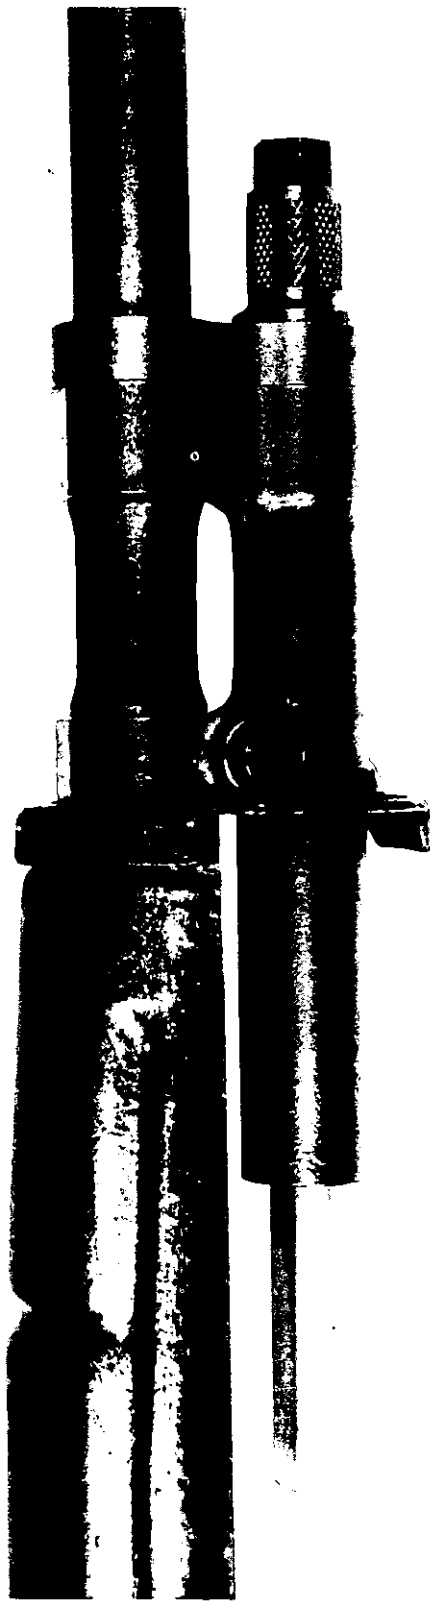

Figure 19. Gas piston properly seated.
b. Gas System. Slide the gas cylinder rearward through the front band. Tighten the gas cylinder lock by hand to its fully assembled position, then back it off until the loop is alined with the gas cylinder. Replace the gas piston with the flat part toward the barrel and the open end toward the muzzle. When the gas piston is *properly seated*, it will protrude one and one-half inches below the gas cylinder (fig. 19). Replace the gas cylinder plug and tighten it securely with the wrench of the combination tool.